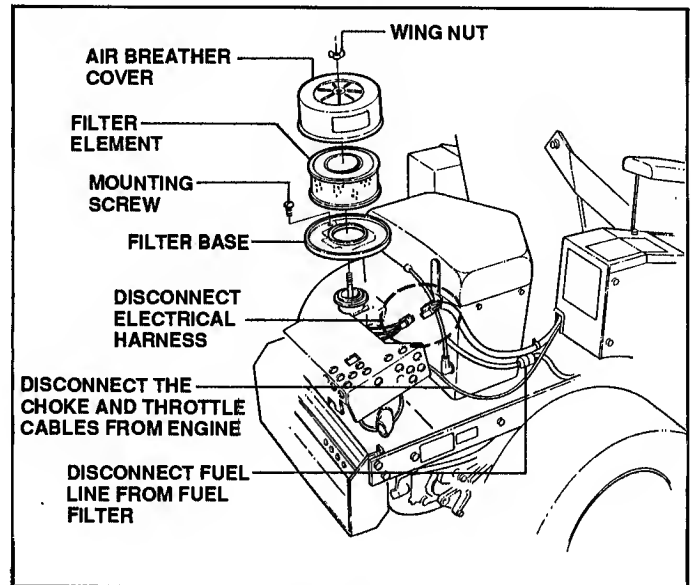

FIGURE 7.5
4. Remove the air breather cover and filter element, then remove mounting screw and filter base. See Figure 7.5.
5. Separate the connectors of the engine and tractor's electrical wiring harness (See Figure 7.5).